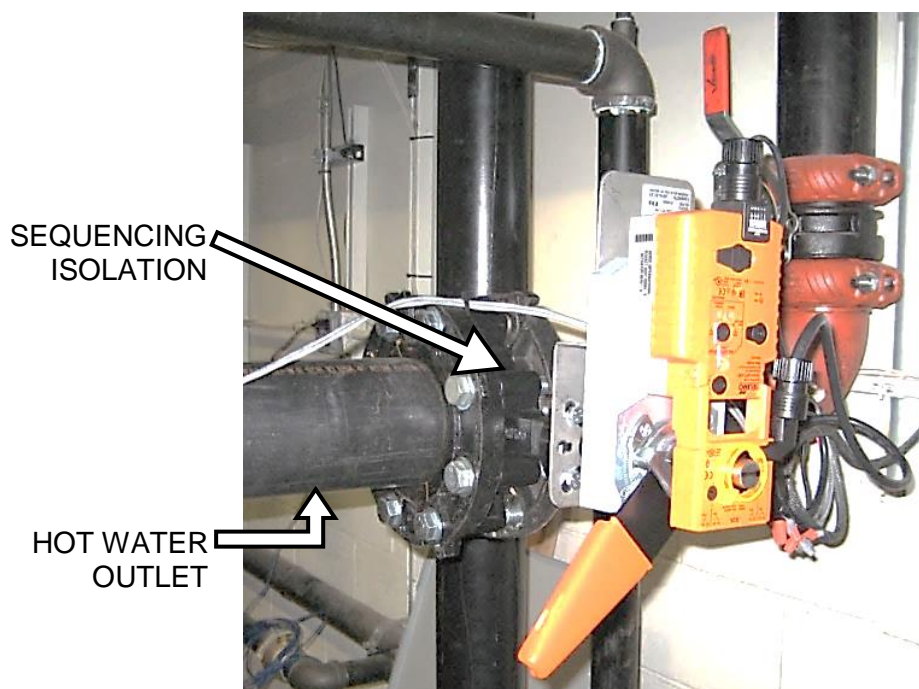

Figure 2-16: Sequencing Isolation Valve Installed
1. Install the sequencing isolation valve in the boiler's hot water outlet pipe (Figure 2-16).